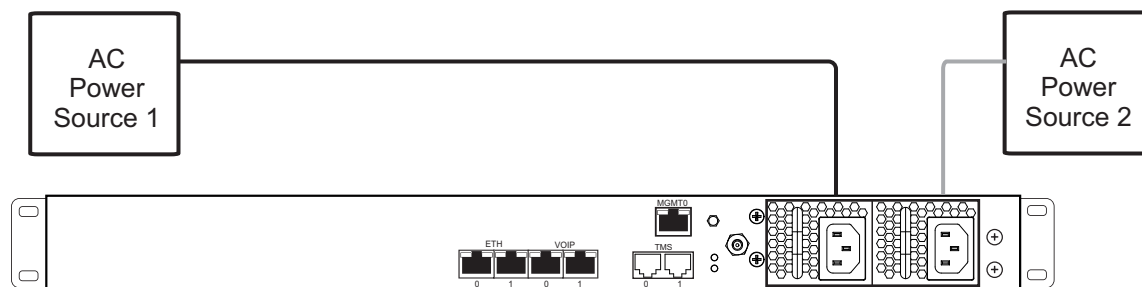

Figure 4.4
1. Connect an AC power cable between the AC connector of the TSBC-HW-TRANS and an AC supply. See figure 4.4 on page 29.